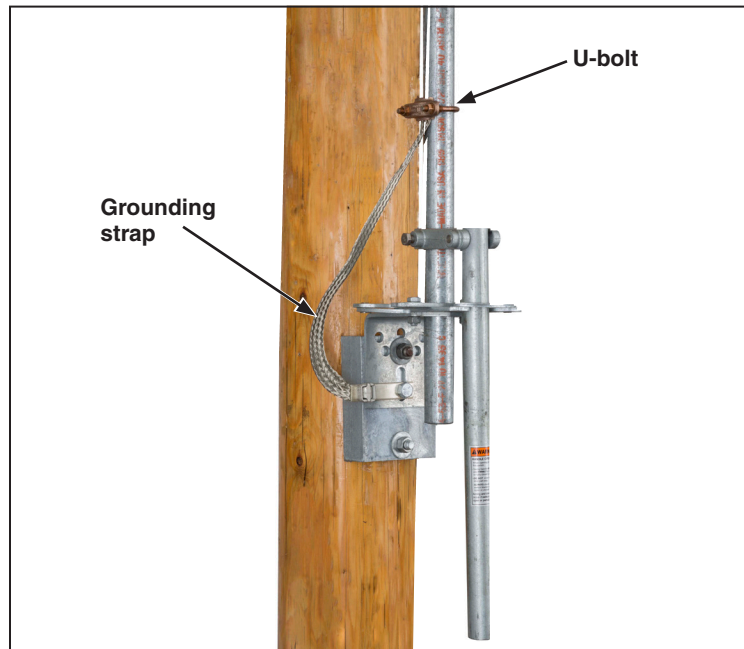

Figure 25. Attach the grounding strap.
STEP 21. Fasten the free end of the grounding strap to the lowest pipe section a few inches above the operating handle assembly (or key interlock) with the U-bolt connector provided for this purpose. See Figure 25. Connect the lower end of the strap to a suitable earth ground using the grounding connector provided at that end of the strap.